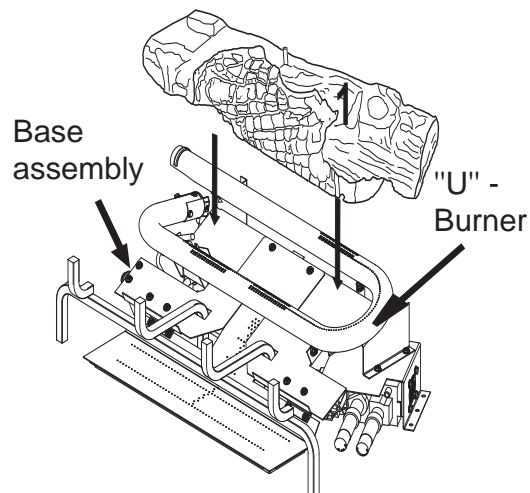

Figure 21 - Installing Log # 1
1. Place the rear log (#1) on base assembly as shown in **Figure 21**. Log will fit over right end of burner and rest in middle of U-burner.